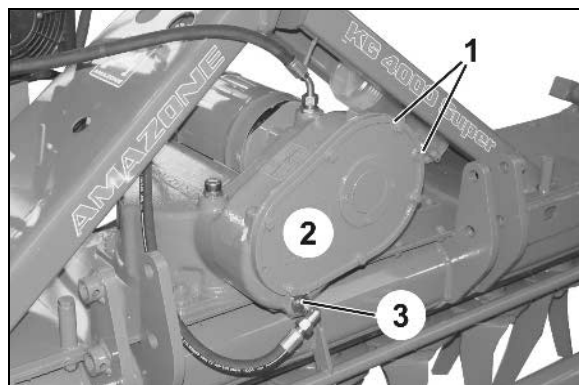

Fig. 35
It is possible to reduce the oil level by draining the oil using the oil drain plug (Fig. 35/1). After the gear wheel change the collected oil can be poured back into the gearbox through the dipstick opening, provided the oil is free from foreign particles..
3. Slacken and remove the bolts (Fig. 35/1) on the gearbox cover (Fig. 35/2).
Remove the gearbox lid (Fig. 35/2) only when the tractor's universal joint shaft is disengaged, the engine is switched off and the ignition key has been removed.
9. Bolt the gearbox cover (Fig. 35/2) on to the gearbox housing using an O-ring.